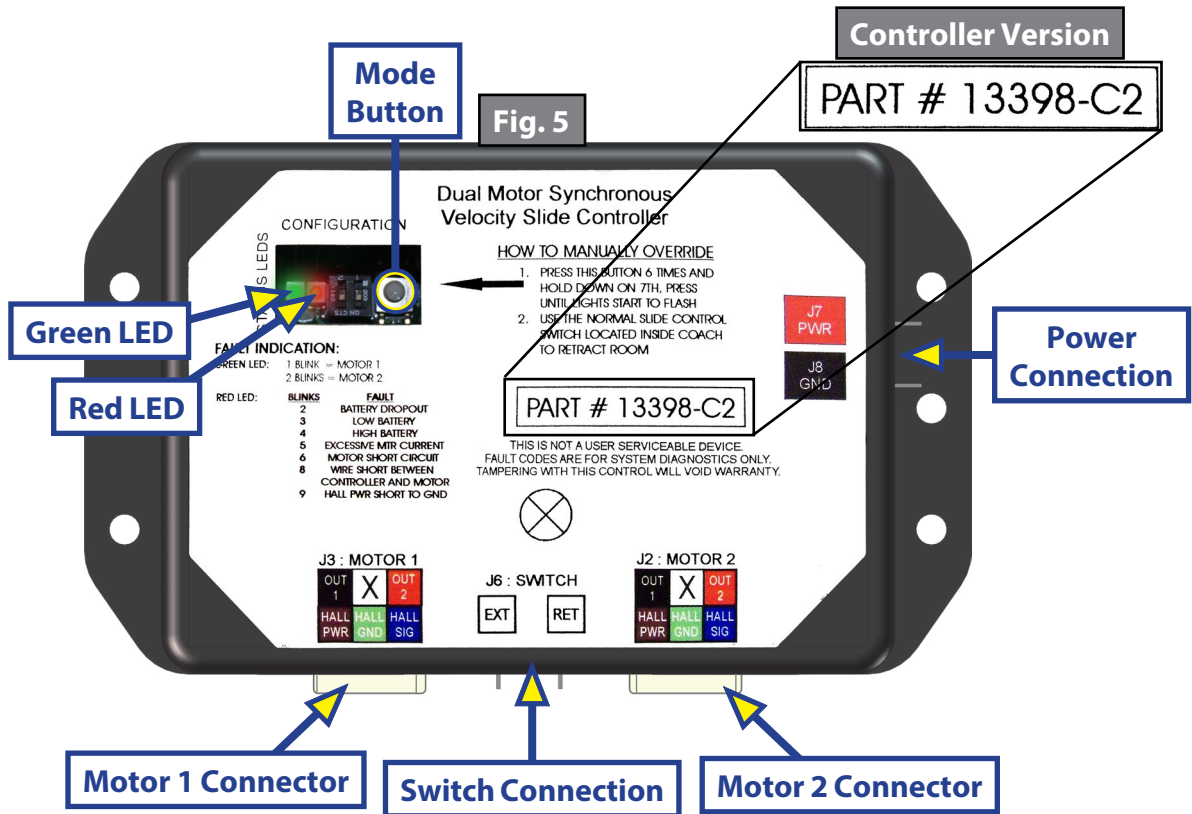

Fig. 6 - Controller Connections
**NOTE:** Motor harnesses have Molex® connectors at the controller and a molded connector at the motor end (Figs. 6 and 7). Wire colors match with color codes on control board. It does not matter which motor is 1 or 2.